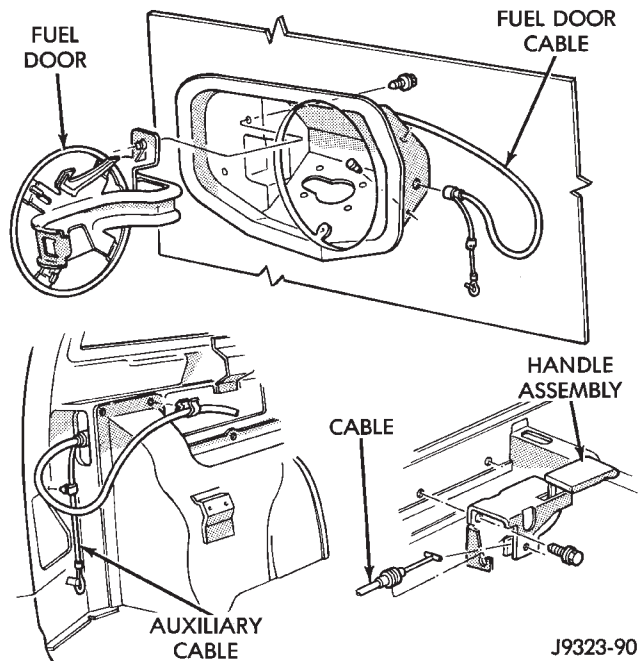

Fig. 42 Fuel Door Components
- (7) Remove cable from fuel door latch and grommet (Fig. 42).
- (8) Remove cable from vehicle.